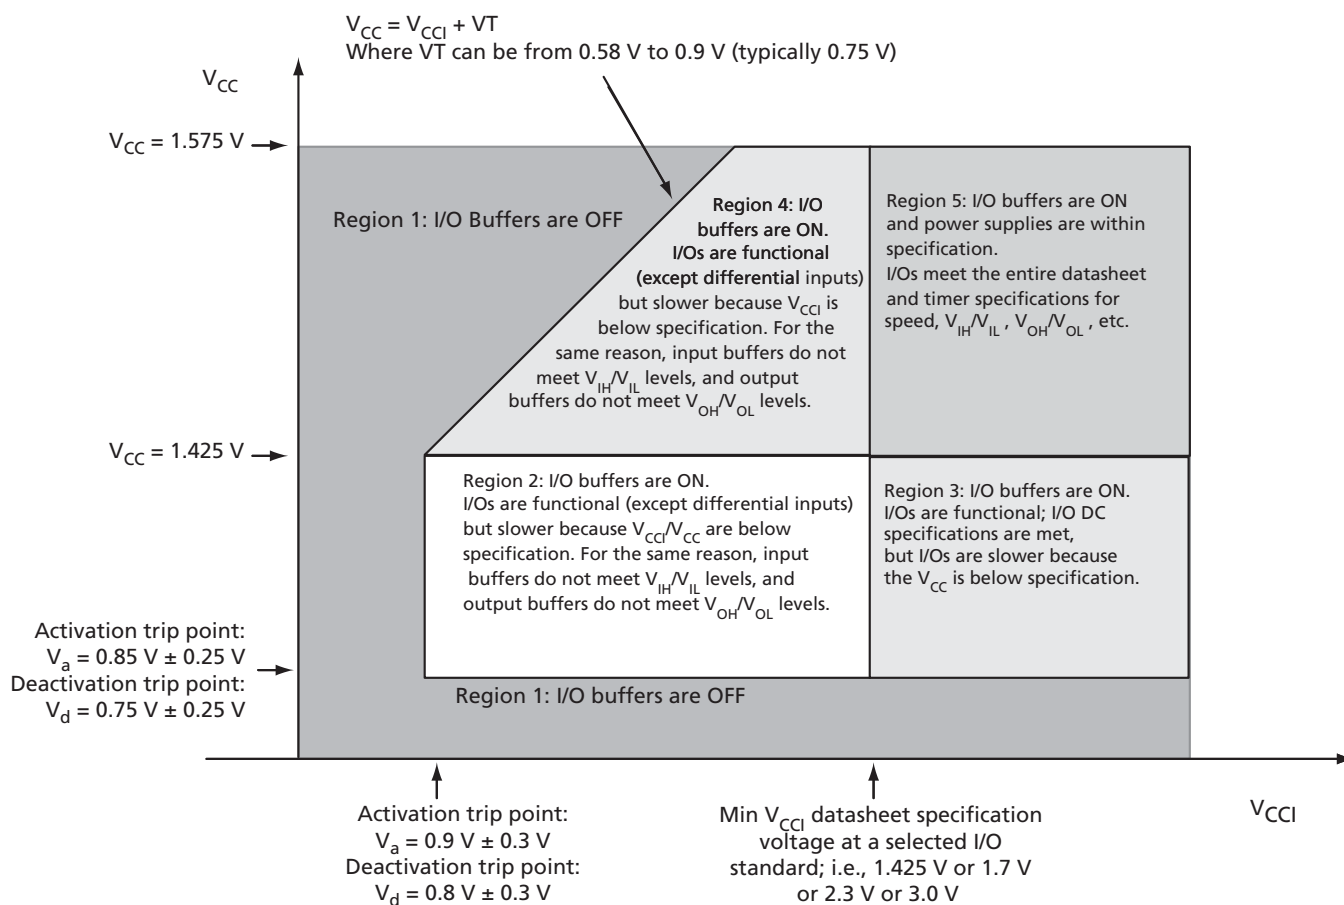

Figure 3-1 • I/O State as a Function of  $V_{CCI}$  and  $V_{CC}$  Voltage Levels
Sophisticated power-up management circuitry is designed into every ProASIC3 device. These circuits ensure easy transition from the powered-off state to the powered-up state of the device. The many different supplies can power-up in any sequence with minimized current spikes or surges. In addition, the I/O will be in a known state through the power-up sequence. The basic principle is shown in Figure 3-1.
1.  $V_{CC}$  and  $V_{CCI}$  are above the minimum specified trip points (Figure 3-1).